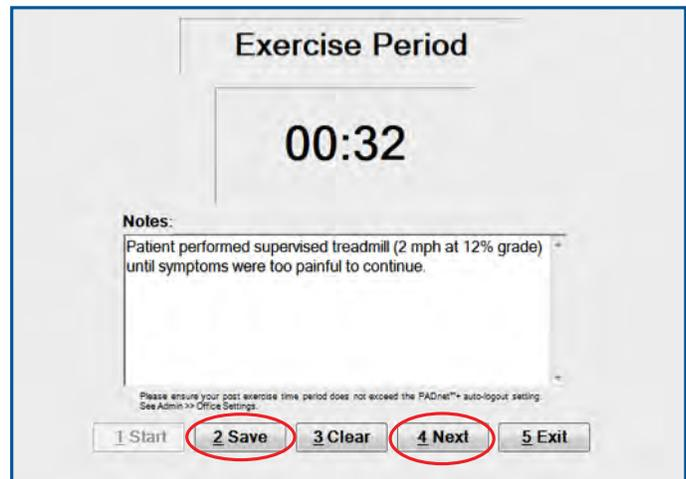

FIGURE 1.32 - Exercise Period - “Save” and “Next” Buttons
42. Click “Save” (Figure 1.32).
43. Click “Next”, or press 4 to move to the test screen (Figure 1.32).